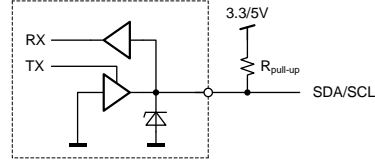

Figure 33. Physical layer of communication interface
*Figure 33* shows the achievable power loss savings when using the hot-standby mode operation. A total power loss reduction of 45% is achievable.